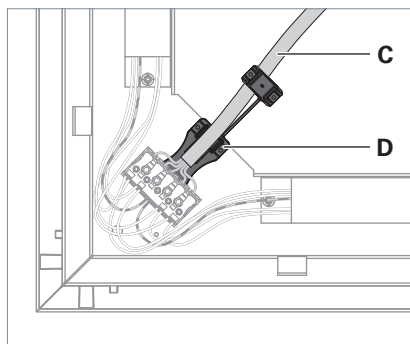

Fig. 6: Mounting the strain relief.
- Fix the connecting cable **C** with the strain relief **D**, see Fig. 6.